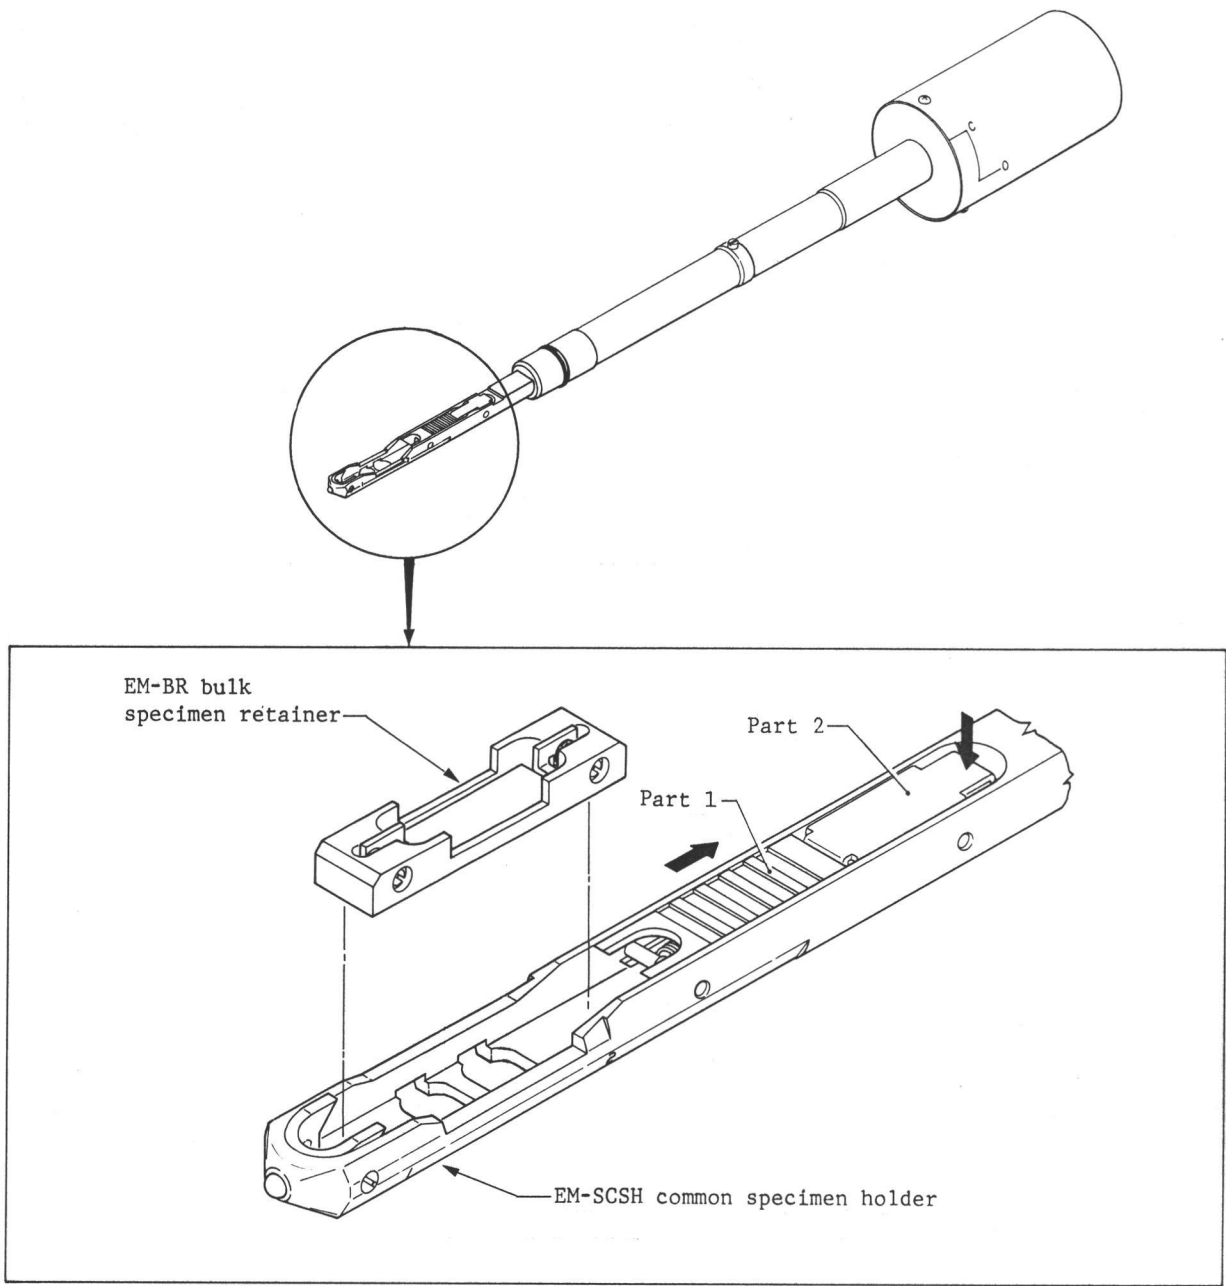

Fig. 6
1. With the specimen holder in the specimen holder storage box, move part 1 in the direction indicated by the arrow until it stops. Then remove the specimen retainer from the specimen holder (Fig. 6).
8. Place the specimen retainer in the specimen holder and push part 2 in the direction of the arrow (Fig. 6) in order to secure it.